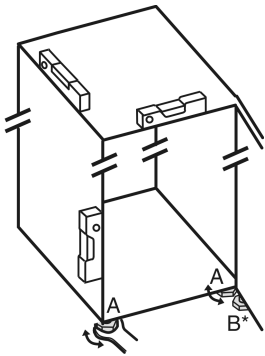

Fig. 5
- ▶ Unscrew the adjustable feet Fig. 5 (A) using the open-end wrench provided and a spirit level until the appliance is firmly aligned and level.
- ▶ Unscrew the adjustable foot Fig. 5 (B) at the swap bearing block using the open-end wrench provided until it rests on the floor.
- ▶ Turn the adjustable foot Fig. 5 (B) another 90°.